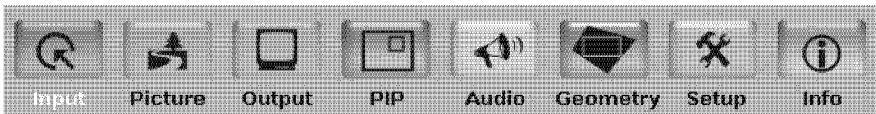

Figure 12: MENU Items
- Press the MENU front panel ON button or the MENU key on the infrared remote control transmitter (see section 8.3) to display the main MENU screen1, which displays eight interactive icons2 (see Figure 12)